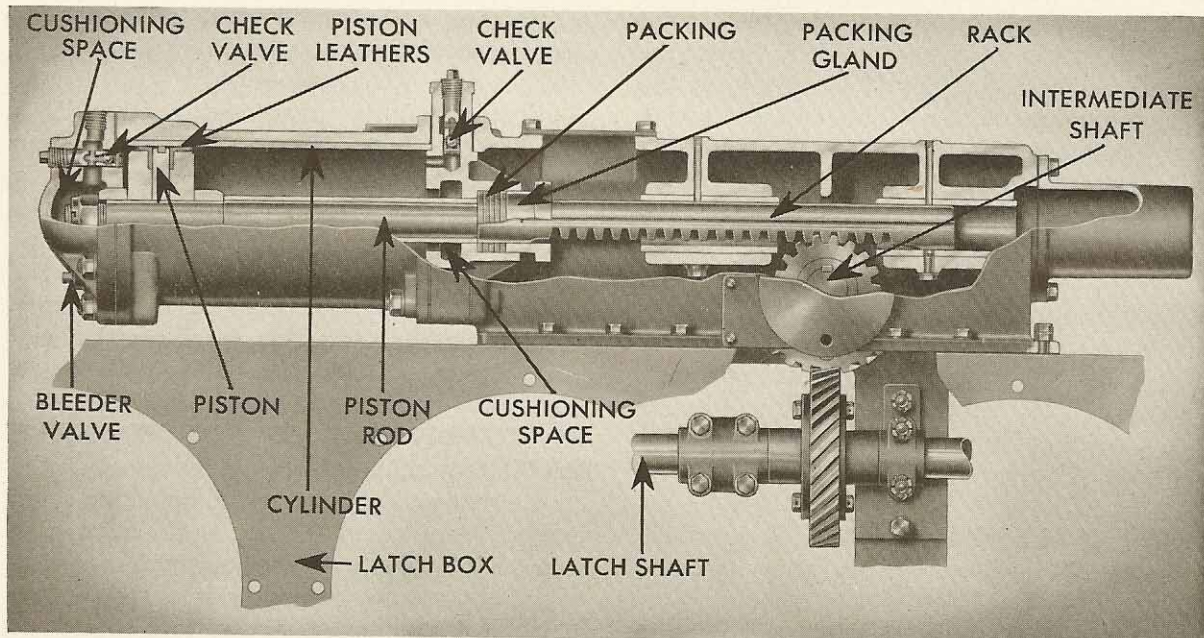

FIGURE 5-16
33. LATCH SHAFT RAM: We have described how the air reaches the latch shaft ram and now a study of Figure 5-16 will show how the movement of the piston is used to rotate the latch shaft one half turn. The piston rod